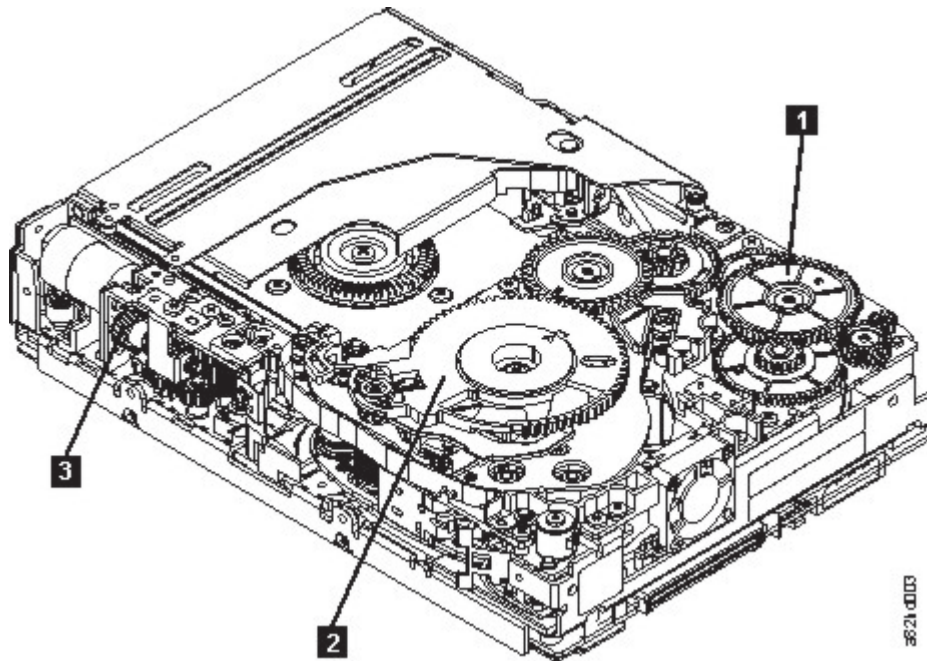

Figure 26. Drive with cover removed to reveal gear train.
4. Locate the threader intermediate gear (**1** in Figure 26 on page 88) near the rear of the drive. You can use your finger to rotate the threader intermediate gear (**1** in Figure 26 on page 88) and slowly rotate the threader mechanism gear (**2** in Figure 26 on page 88) clockwise.
5. As the leader pin is secured in the cartridge, you hear the leader pin retention spring clips click into place. If you do not hear the click, continue rolling until the threader intermediate gear (**1** in Figure 26 on page 88) stops. The LBA is in the correct position.